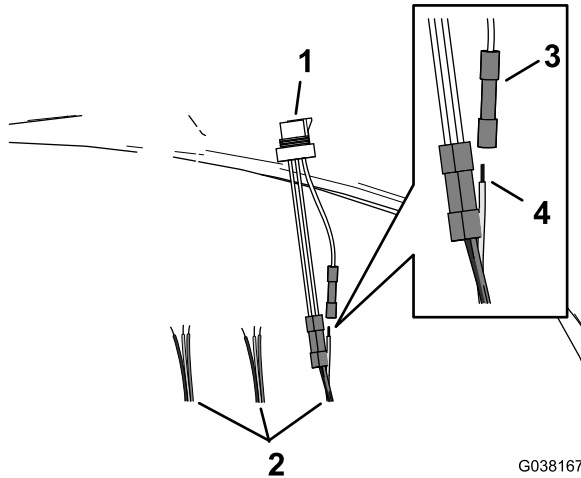

Figure 34
- Insert the wire of the DIN wire harness into the butt-splice connector of the 3-pin adapter (Figure 34).